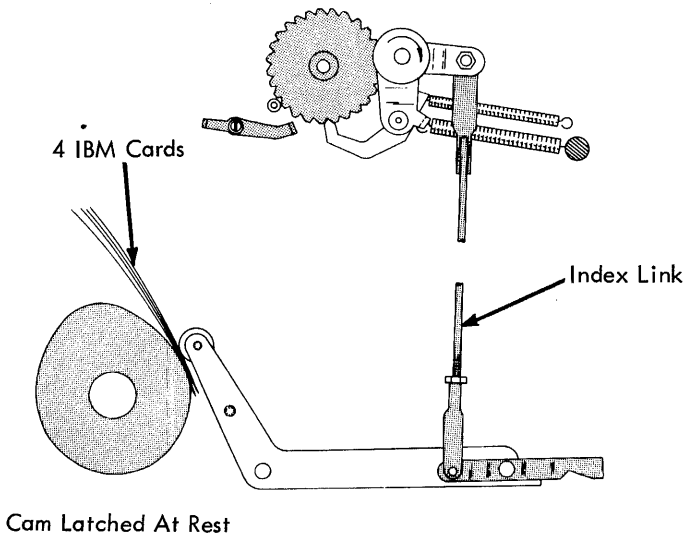

FIGURE 222. Index Link Adjustment
b. With the index selection lever in the single line space position, adjust the index link so that the index pawl bottoms in the ratchet against a tooth after .030" rise on the index cam (Fig. 222). Half-turn adjustments may be made by disconnecting and turning the link at the top.
The cam rise may be simulated by leaving the cam latched in the rest position and placing four strips of IBM card stock between the cam and the cam follower (Fig. 222).